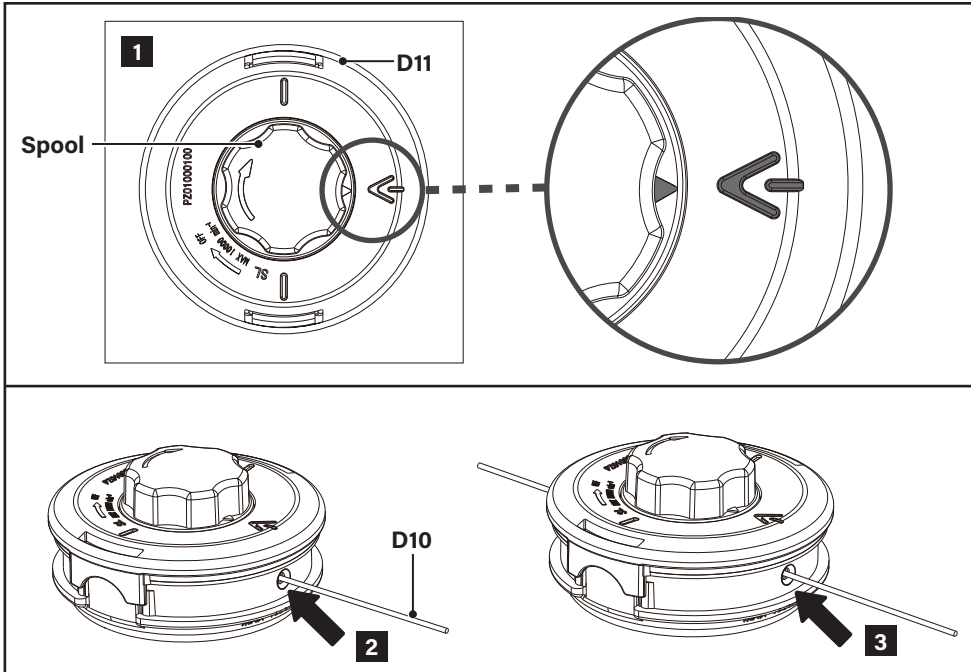

Fig. 23
2. Press and rotate the spool head to align the arrow on spool head and the line on the cover of the string trimmer head (D11) (Fig. 23, step 1).
4. Insert one end of the cutting line (D10) into the eyelet on the housing of the string trimmer head (D11) and the spool in the trimmer head. Insert the cutting line until it emerges from the hole on the opposite side of the string trimmer head (Fig. 23, step 2).
5. Pull the cutting line (D10) out to approx. 2 m in length (Fig. 23, step 3).